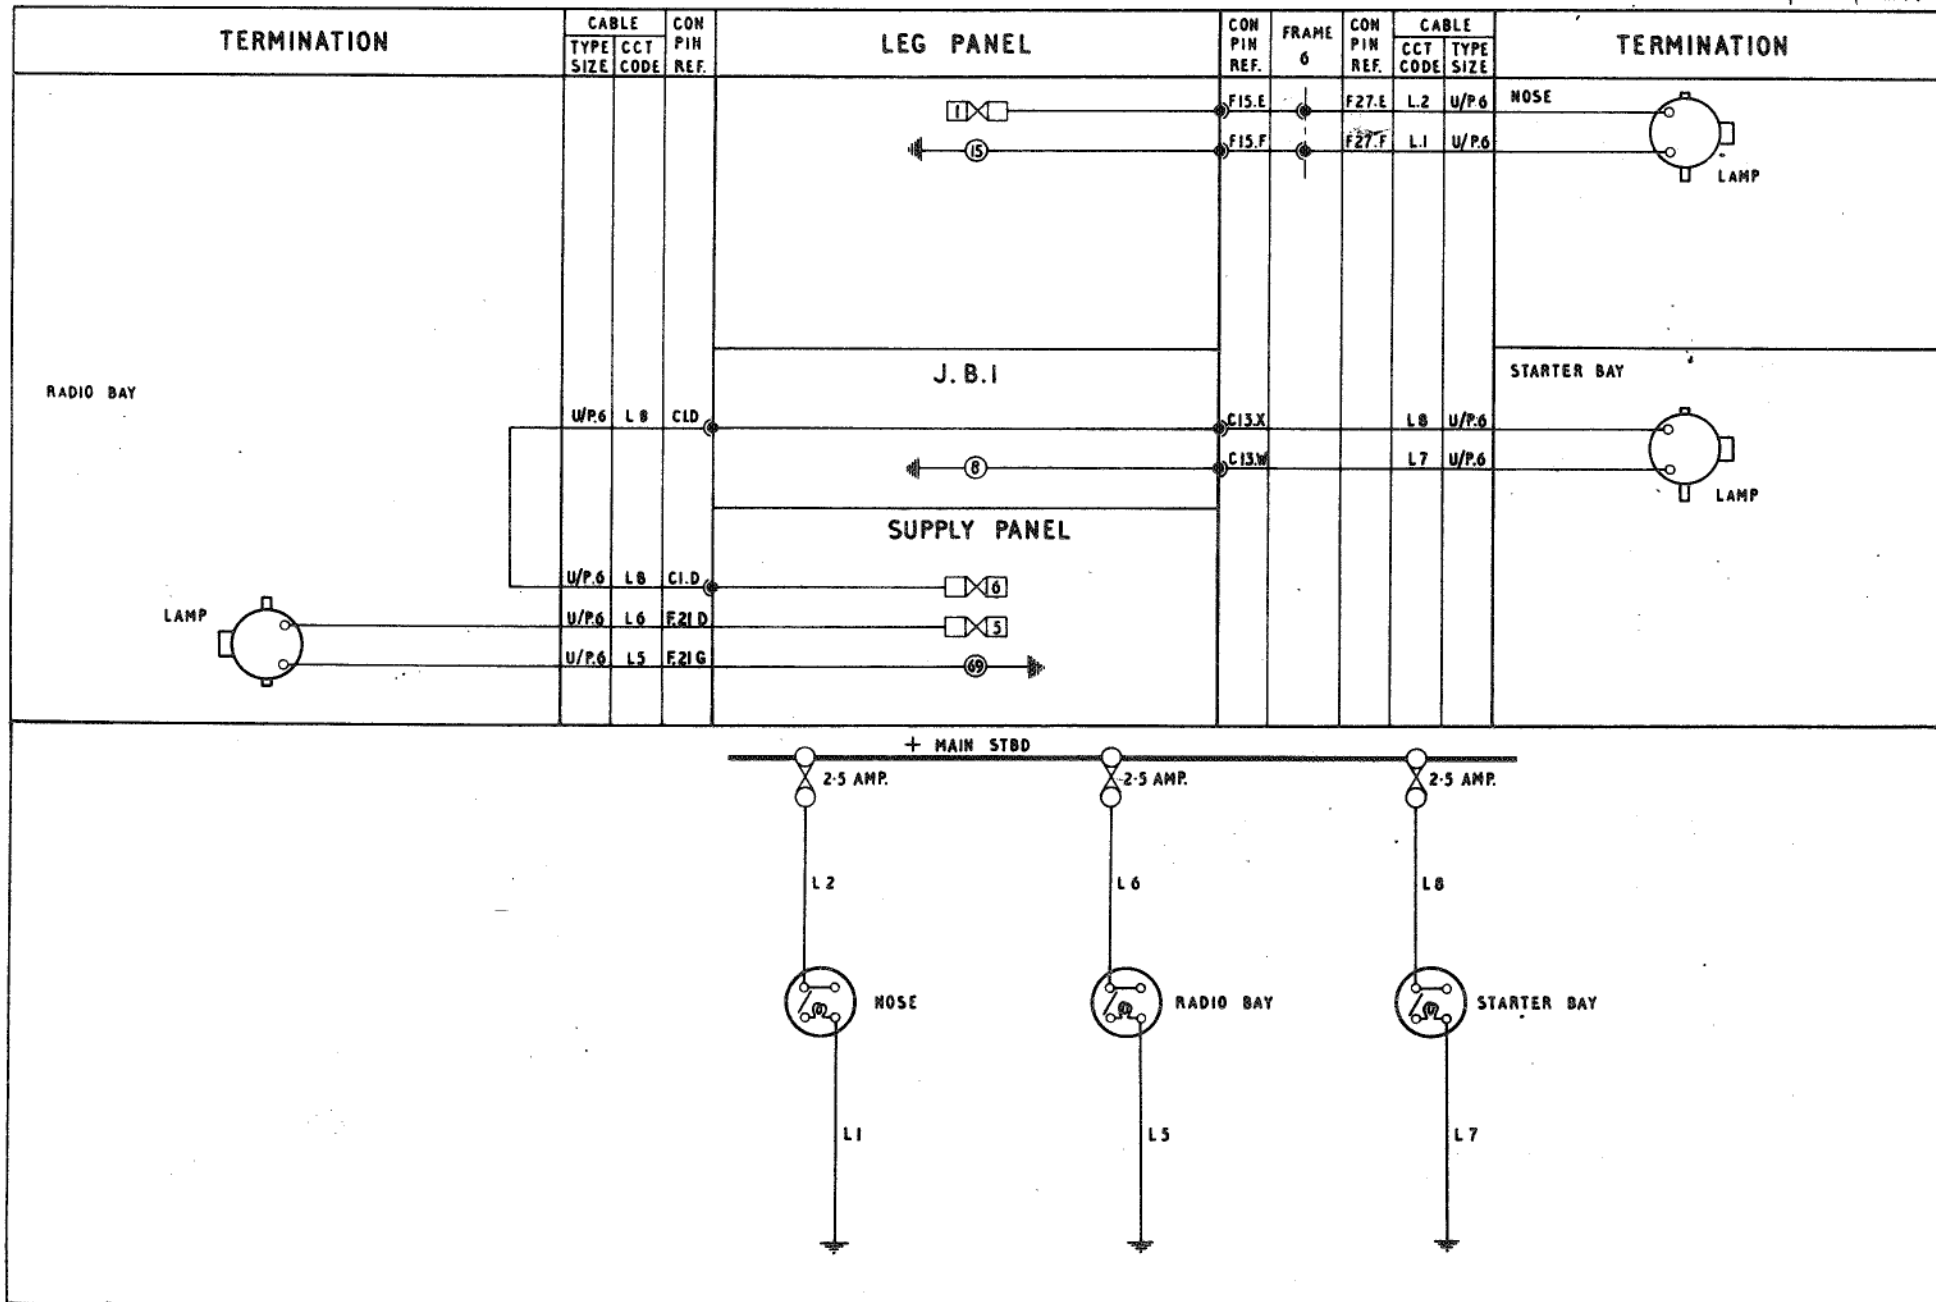

FIG. 1. SERVICING LAMPS
3. The operation of the circuit should be apparent from reference to the theoretical diagram (fig. 1).